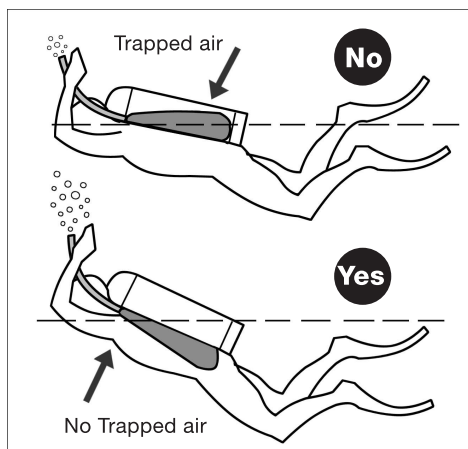

Figure 6
- by lifting the inflator and making it the highest point on the BCD and pressing manual deflator button (B) Figure 6.